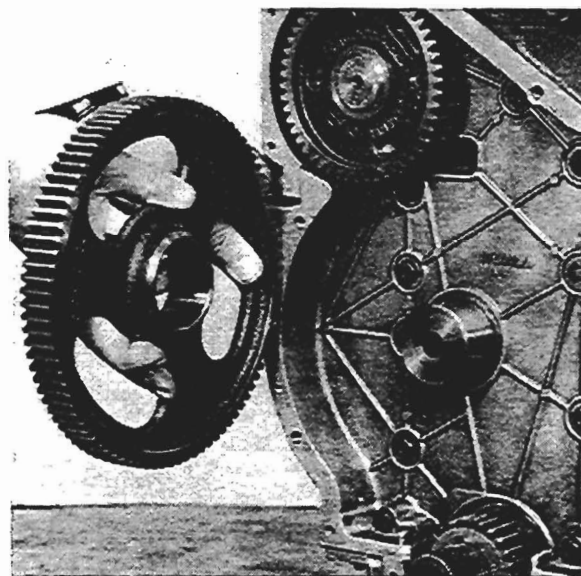

Fig. K4
3. Remove idler gear from its hub (see fig. K4).